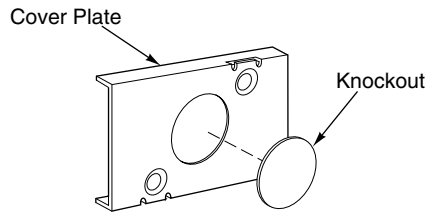

Figure-10 Cover Plate Knockout Removal.
1. Remove the knockout from the cover plate supplied with the actuator. Refer to Figure-10.